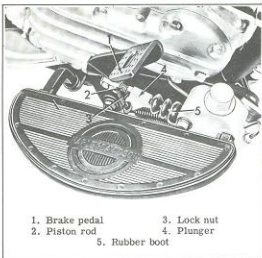

Figure 2G-7. Adjusting Rear Brake Pedal
sary to bleed the system to expell all air. See Fig. 2G-6.
Slip a length of appropriate size plastic tubing (2) over wheel cylinder bleeder nipple (1, Fig. 2G-6) with the other end in any container (3).